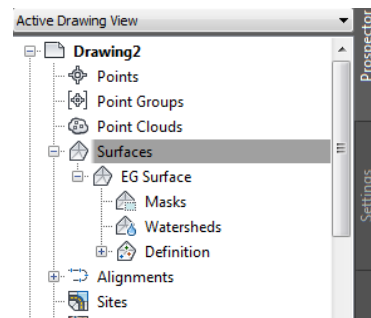

Figure 3-54 The EG Surface added in the Surfaces node of the Prospector tab
4. Now, ensure that the **TIN surface** option is selected in the **Type** drop-down list of the **Create Surface** dialog box and choose the **OK** button; the dialog box is closed. Also the surface is created and is added to the **Surfaces** node in the **Prospector** tab of the **TOOLSPACE** palette, as shown in Figure 3-54.